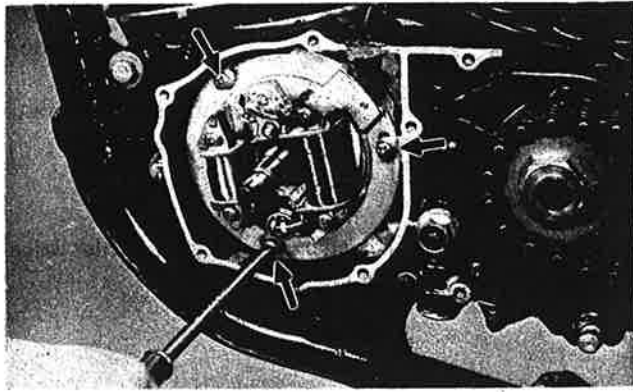

Fig. 3-1-19
6. Remove flywheel backing plate assembly. (Fig. 3-1-19)